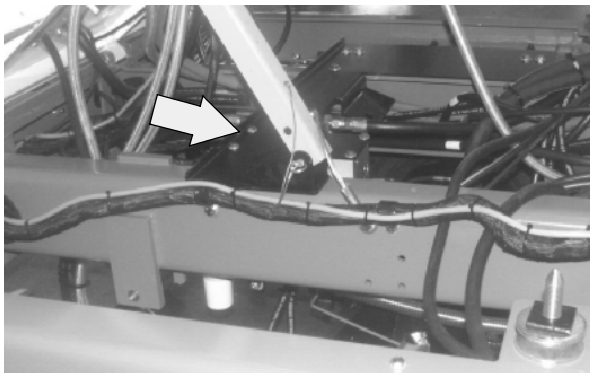

FIG. 19
32. Pull the pin from the cab prop arm, let arm drop down, install pin into the lower hole on the arm and frame bracket. Refer to Fig. 19.